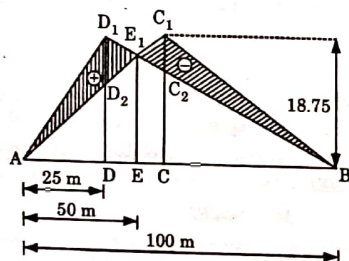

Fig. 16. ILD for M_D .
1. Fig. 16 shows influence line diagram for bending moment at quarter span D.